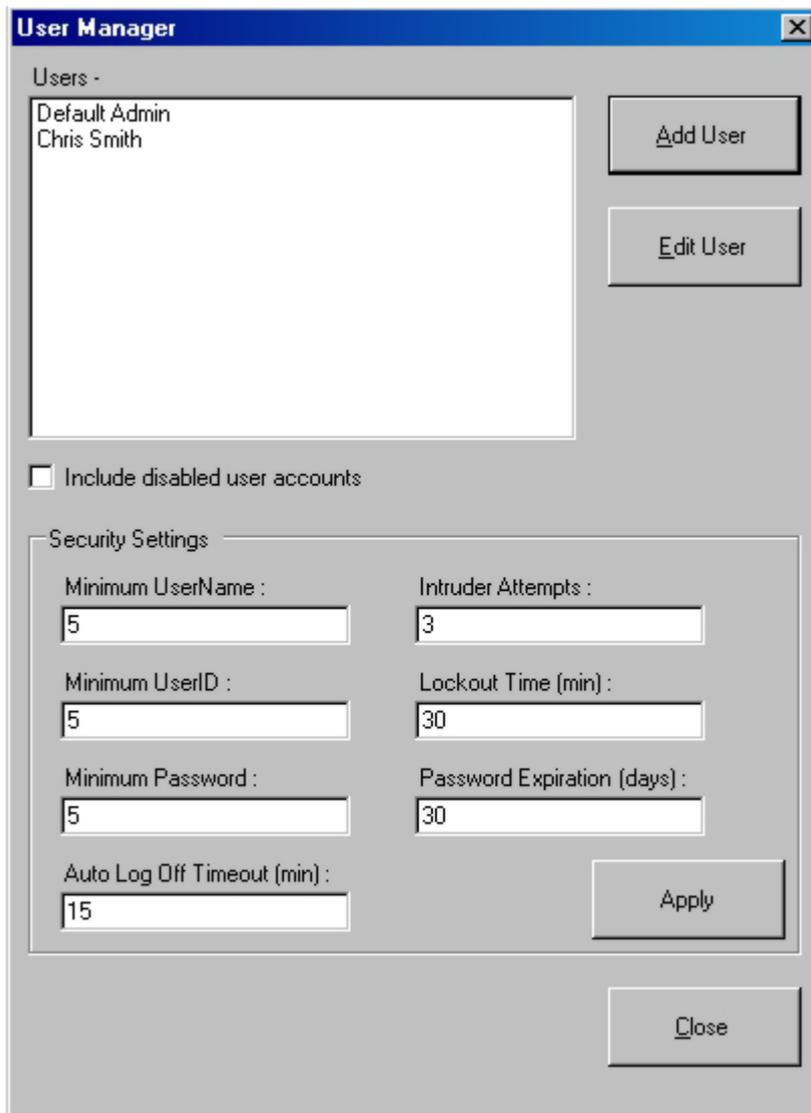

Figure 4 User Manager Window
1. Click the **SETUP USER** icon. The User Manager window opens (Figure 4).